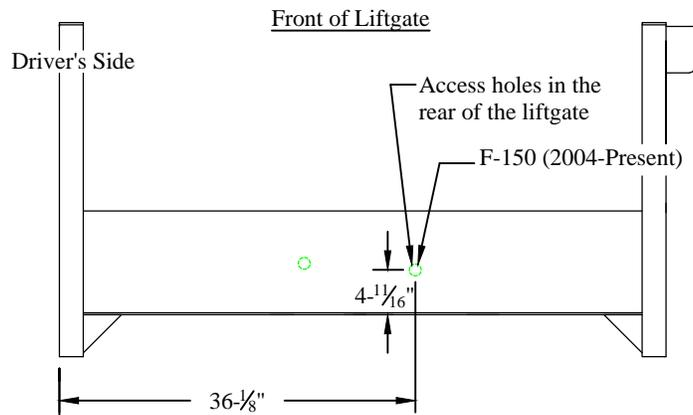

Figure 14: Spare tire access.
2. **Remove** the black plastic plug for your application (Figure 14).